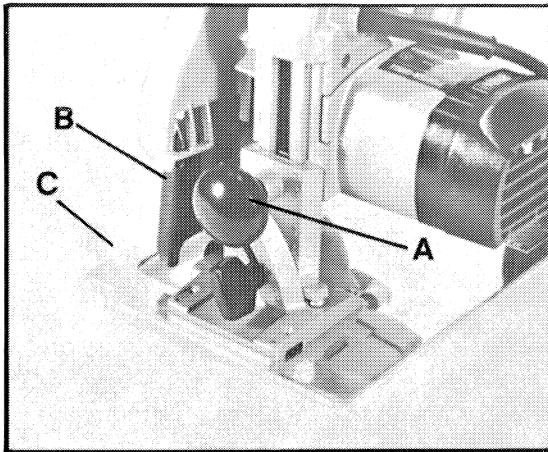

Fig. 5
2. With one hand holding the top handle of the saw, loosen the depth adjusting knob (A) Fig. 5, and lower the base (C) to decrease cutting depth or raise the base (C) to increase cutting depth. Firmly tighten knob (A) at desired depth setting.
Your Porter-Cable saw is equipped with an auxiliary blade guard (B) Fig. 5. A wedge should never be used between the saw blade and the auxiliary blade guard, to prevent the blade from turning, while changing blades.